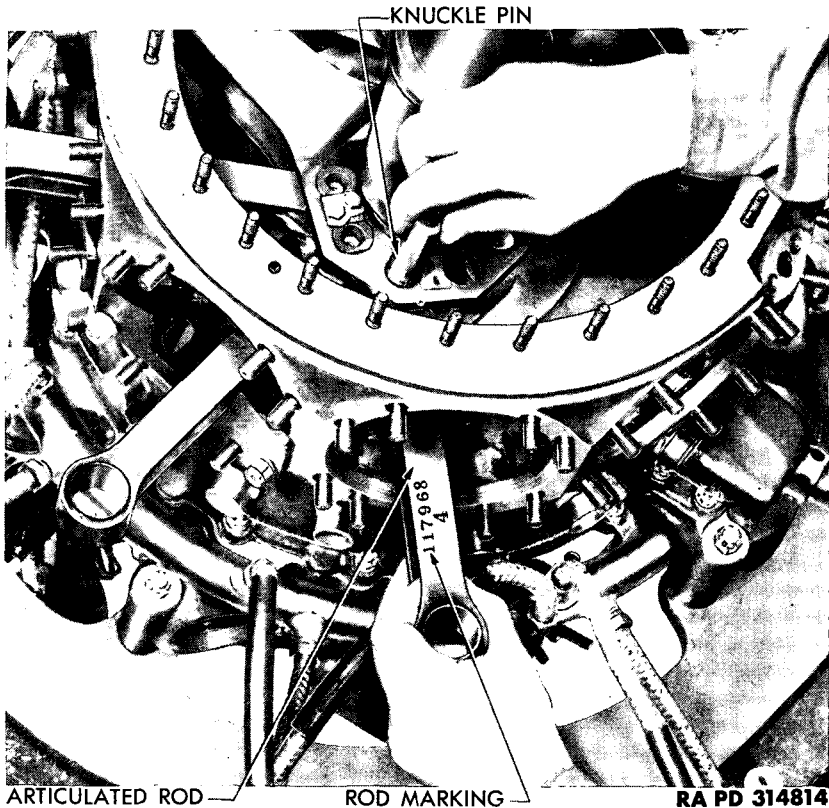

Figure 215 — Inserting Knuckle Pin
g. Install Knuckle Pins. Oil the bushing in each rod and the two knuckle pins which will secure the rods to the master rod. With the lock plate recess in the two knuckle pins facing each other (fig. 215), insert knuckle pin for each rod through the master rod flange and into the articulated rod bushing. Line up knuckle pins so that screw